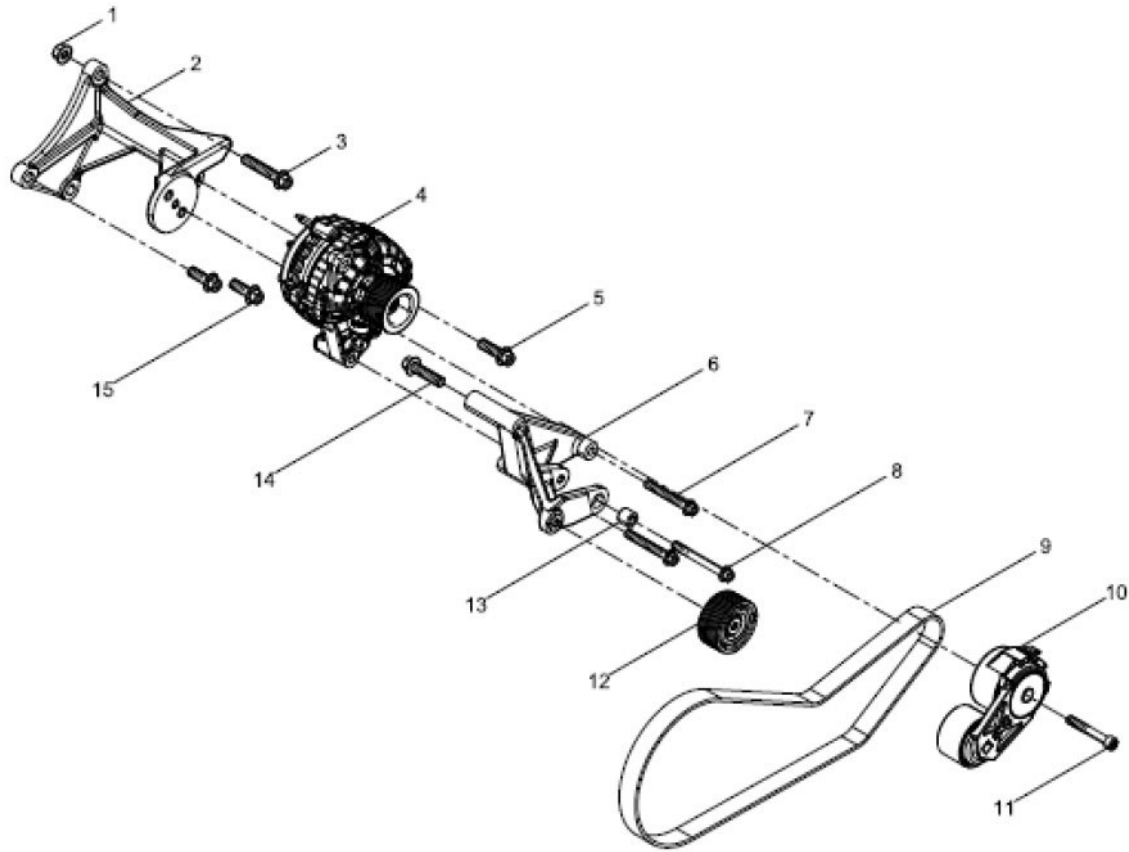

Figure 13. Alternator Pulley Assembly
2. Loosen the serpentine belt (Figure 13, item 9) by operating the tensioner (Figure 13, item 10).
3. Remove the bolts (Figure 13, items 3 and 5). Remove the alternator (Figure 13, item 4)
4. Loosen and remove the remaining bolts on the alternator bracket (Figure 13, item 2). Remove the idler pulley bracket bolts if necessary (Figure 13, item 6).
1. Install the alternator bracket (Figure 13, item 4).
2. Insert and torque down the alternator bracket bolts (Figure 13, items 3 and 5). Insert the idler pulley bracket bolts if necessary (Figure 13, item 6).